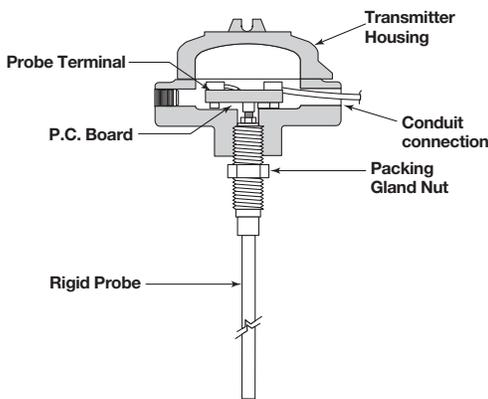

Figure 2
2. Screw the transmitter housing onto the probe until hand tight. The housing can be wrench-tightened to align the conduit connection with the conduit. Refer to Figure 2.
11. Screw the transmitter onto the probe until hand tight. The housing can be wrench-tightened to align the conduit connection with the conduit. Refer to Figure 2 on page 6.